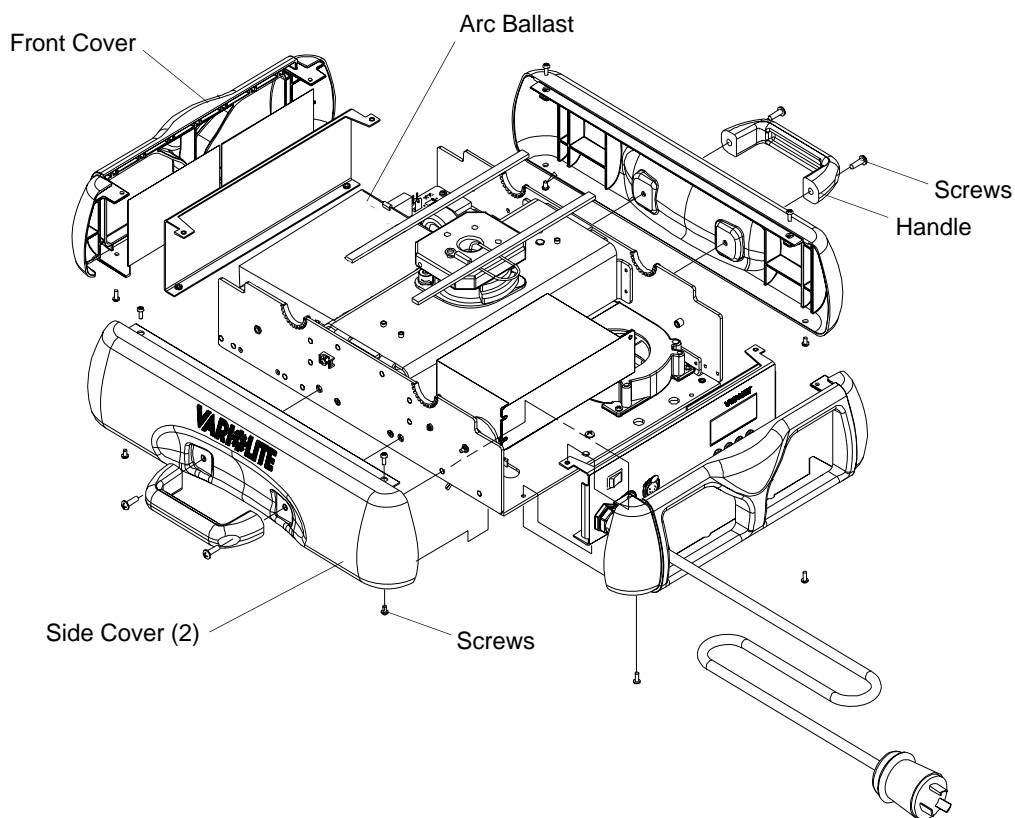

Figure 2-18: Accessing Ballast Module
- Step 4. At enclosure, remove eight 6-32 x 3/8" PPZ screws and both side covers. Figure 2-18.